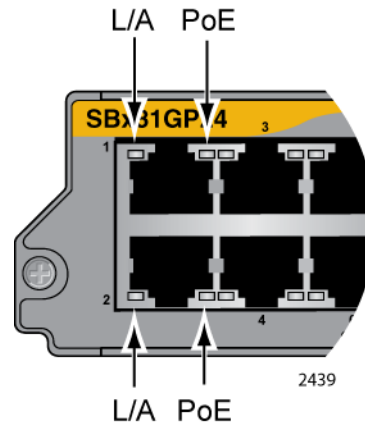

Figure 18. Port LEDs on the AT-SBx81GP24 PoE Line Card
**LEDs** Each port on the AT-SBx81GP24 PoE Line Card has two LEDs. The LEDs are shown in Figure 18 and described in Table 9.